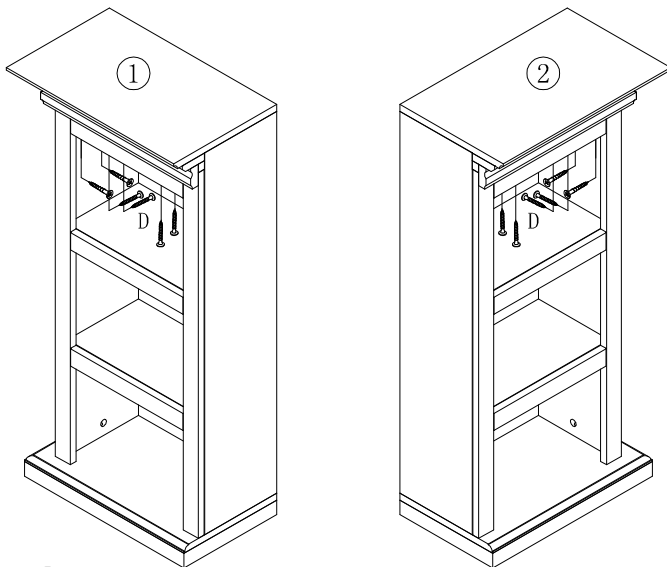

Figure 4
PLACE THE BOOKCASE TOPS (1,2) ONTO TOP EDGES OF LEFT AND RIGHT SIDES OF BOOKCASES (3,4,5,6). INSERT 12PCS FLAT HEAD LONG SCREWS (D) THROUGH PREDRILLED HOLES ON PARTS (3,4,5,6) AND TIGHTEN INTO CORRESPONDING HOLES ON UNDERSIDE OF BOOKCASE TOPS (1.2). AS FIGURE 4 SHOWN.